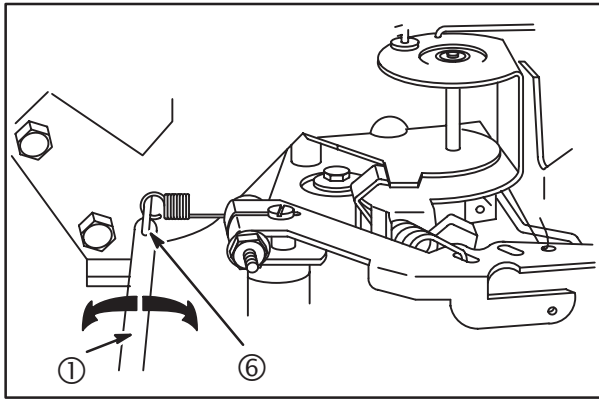

Fig. 43
6. Use tang bender (1) to bend governed idle tang (6) to obtain RPM shown, **Fig. 43**: